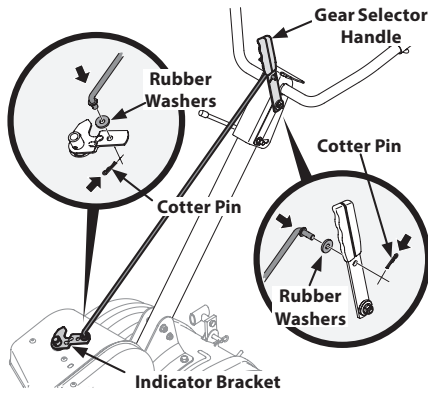

Figure 10
3. Insert the shorter (angled) end of the control rod through the indicator bracket on the shift cover and secure with the cotter pin that was previously removed. See Figure 10.
4. Insert the longer end of the control rod through the hole in the gear selector handle and secure with the cotter pin. See Figure 10.